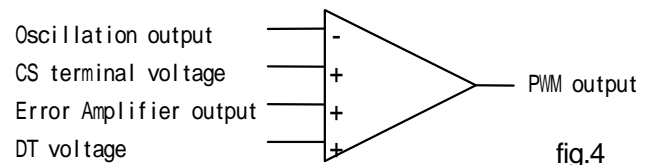
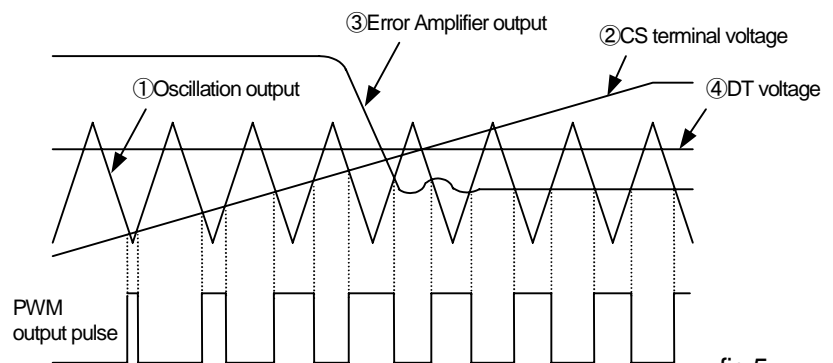

fig.4
fig.5
(4) PWM comparator
The PWM comparator has 4 input terminals. (Fig. 4) The oscillator output ① is compared with the CS terminal voltage ②, and the error amplifier voltage ③, then, the lower voltage between ② and ③ is preferred. While the preferred voltage is lower than the oscillator output, the PWM comparator output is LOW. While the preferred voltage is higher than the oscillator output, the PWM comparator output is HIGH (Fig. 5). When the IC starts, the capacitor connected to the
CS terminal is charged through the resistor connected to the power supply, and then the output pulses begin to widen gradually as the operation of soft start. In steady operation, the pulse width is determined based on the voltage of the error amplifier③, and then the output voltage is stabilized. The Dead Time control voltage (④DT voltage) of FA7700 and FA7701 has different characteristics to adjust the ICs to various types of power supply circuits being controlled and also to reduce external discrete components as many as possible. FA7700 is developed for fly-back circuits, and boost circuits, and the DT voltage is set in the IC so that the maximum output duty cycle is fixed to 80%(min.). (Maximum output duty cycle changes according to operation frequencies.— See P10 “Maximum output duty vs. temperature”.) It prevents magnetic saturation of the transformer or the like when a short-circuit in the output circuit occurs. FA7701 is developed for buck circuits, and it is designed for the maximum output duty cycle of 100%. The timing chart of PWM comparator is described in Fig. 5.
(5) Soft start function